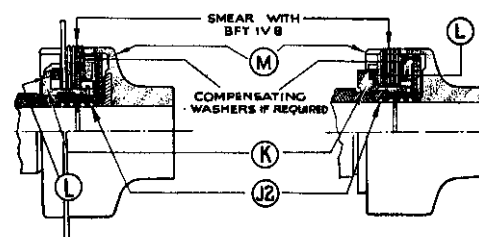

Fig. 11.
- (d) Withdraw clutch and pressure plates from housing M Fig. 11.
Take care to insert the plates as explained in Section 9 (b), and illustrated in Fig. 11.
When assembled the clutch must be adjusted to slip at 100—115 lb. ft. torque and tested about 10 times; after this, the clutch should be adjusted to slip at 80—100 lb. ft.; if clutch slips with less than 80 lb. ft. torque a compensating washer must be interposed between the clutch plates and the back ring. These washers are made in two thicknesses, .1 and .15 mm., and one or more should be used as required. See Fig. 11.